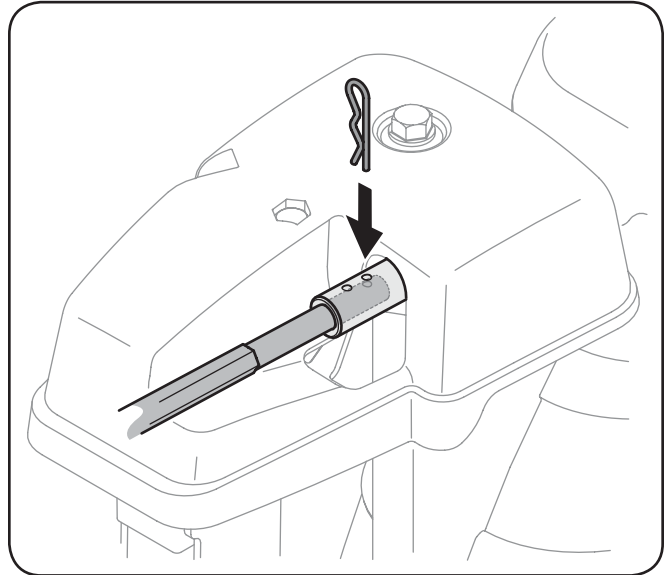

Figure 3-9
- Push the chute control rod toward the control panel until the hole in the rod lines up with the hole in the chute control input closest to the chute control head and insert the hairpin clip removed earlier. See Fig. 3-9.